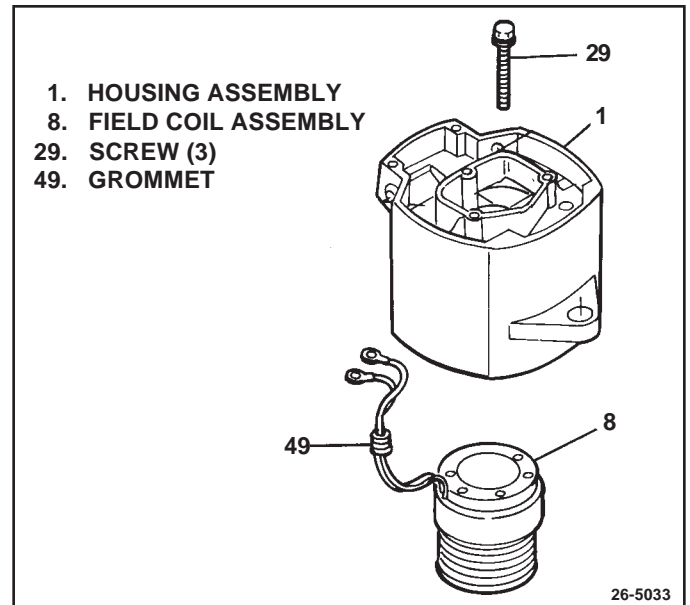

Figure 25. Removing Field Coil
14. To remove field coil and support from rectifier end housing, (See Fig. 25) remove 3 field coil and support attaching screws (29). Lift coil and support from housing, while guiding field leads and grommet through hole.